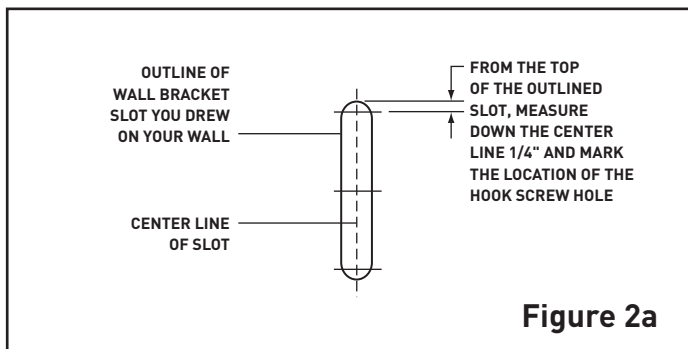
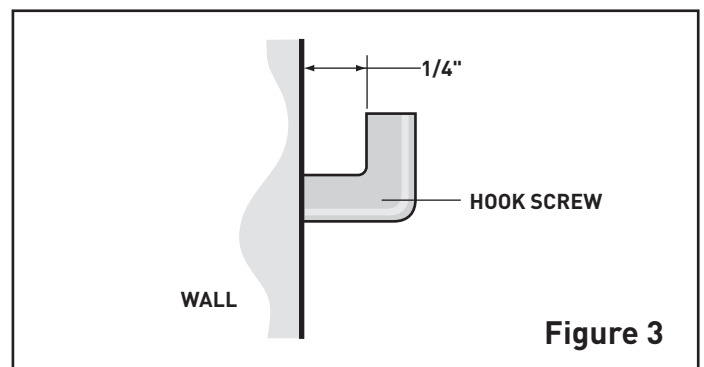

Figure 2a
Figure 3
2. Starting at the top of either of the outlined slots you made in step 1, with a plumb straight edge, draw a line down the center of each slot from top to bottom as shown in Figure 2a. Repeat for the other side of the awning.
3. Starting on the Left side. From the top of the outlined slot, measure down the center line 1/4" and mark the location of the left side Hook Screw hole. Repeat for the right side. (See Figure 2a).
6a. Using a 13/64" drill bit, pre-drill holes at both left and right locations for the Hook Screws as shown in Figure 2a. Install a Hook Screw into each of the Hook Screw locations. Be sure to leave 1/4" of the Hook Screw exposed between the wall and the hooked end of the Hook Screw, see Figure 3.
6b. Using a 3/16" masonry drill bit. Pre-drill pilot holes 1-3/4" deep into the walls at both the left and right locations for the Hook Screws as shown in Figure 2a. With a 5/16" masonry drill bit, enlarge the holes 1" deep. Insert plastic masonry anchors into the holes, large side out. Install the Hook Screws into the Hook Screw locations. Be sure to leave 1/4" of the hook screw exposed between the wall and the hooked end of the Hook Screw, see Figure 3.